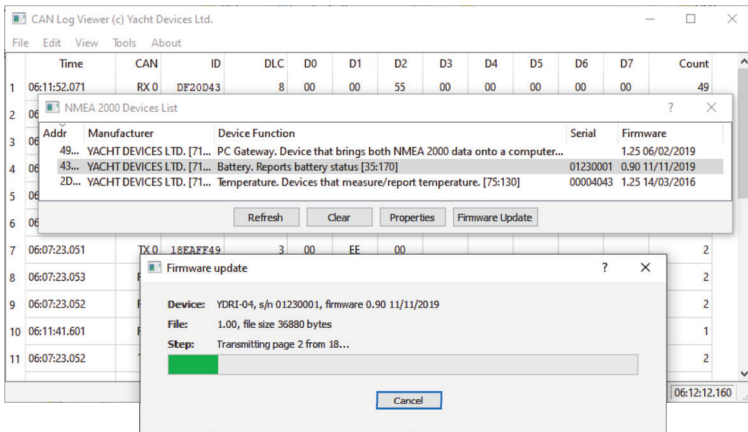

Figure 10. Firmware update with CAN Log Viewer
2. Click the «Refresh» button (see Figure 10 at the next page) in the opened window and wait for the Device to appear in the list.